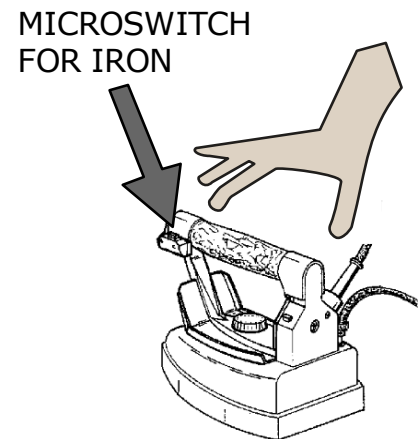

Fig. 6
10. Raise the iron by the cork handle and press the micro-switch (fig. 6) for 4-5 times so that steam comes out. Ensure the steam is saturated (pressing the micro-switch with the iron pointed towards the floor).
1. Run the iron on garments, pressing the micro-switch of the iron at intervals (fig. 6) so that steam comes out. It is recommend to use frequently the vacuum in